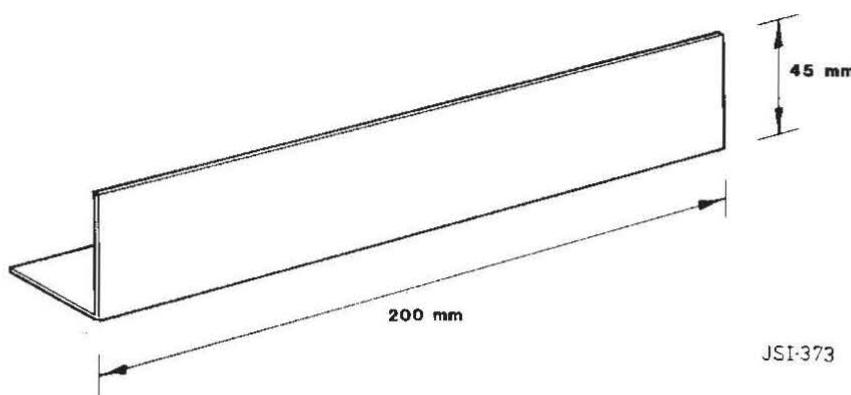

FIG. 3
- (2) Two pieces of angle iron 200mm long and no greater than 45mm wide (or Imperial equivalents), see Fig. 3.